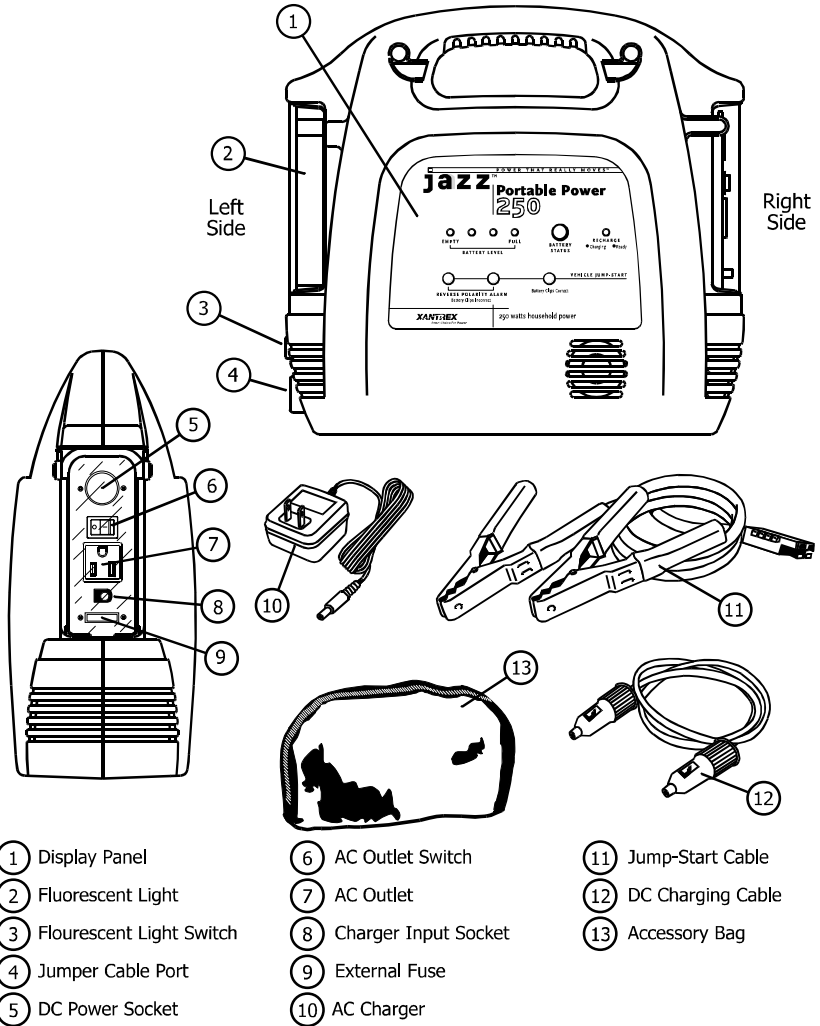
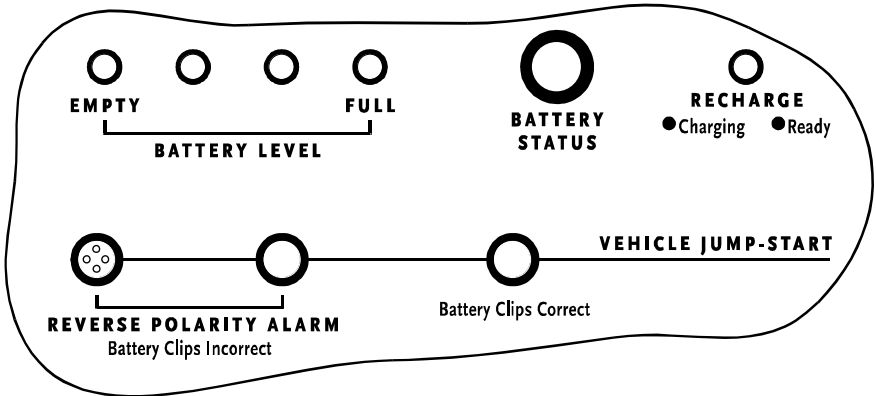

Figure 1 - Portable Power 250's Key Features
Figure 2 - Portable Power 250's Display Panel
Refer to Figure 1 in Section 3.1 and in Figure 2 below for the location of items described in this section.
1. Open the protective covering on the unit’s right side. Turn on the AC Outlet ON/OFF Switch. In the ON state, the switch illuminates indicating AC power is available at the AC outlet. See Figure 1 in Section 3.1.